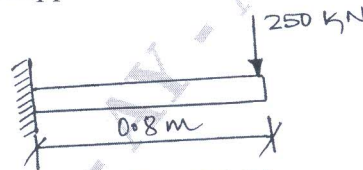

Fig. Q5 (b)
b. A Cantilever beam subjected to a point load of 250 kN as shown in Fig. Q5 (b). Determine the deflection at the free end and support reactions. Take  $E = 200 \text{ GPa}$  and  $I = 4 \times 10^6 \text{ mm}^4$ .